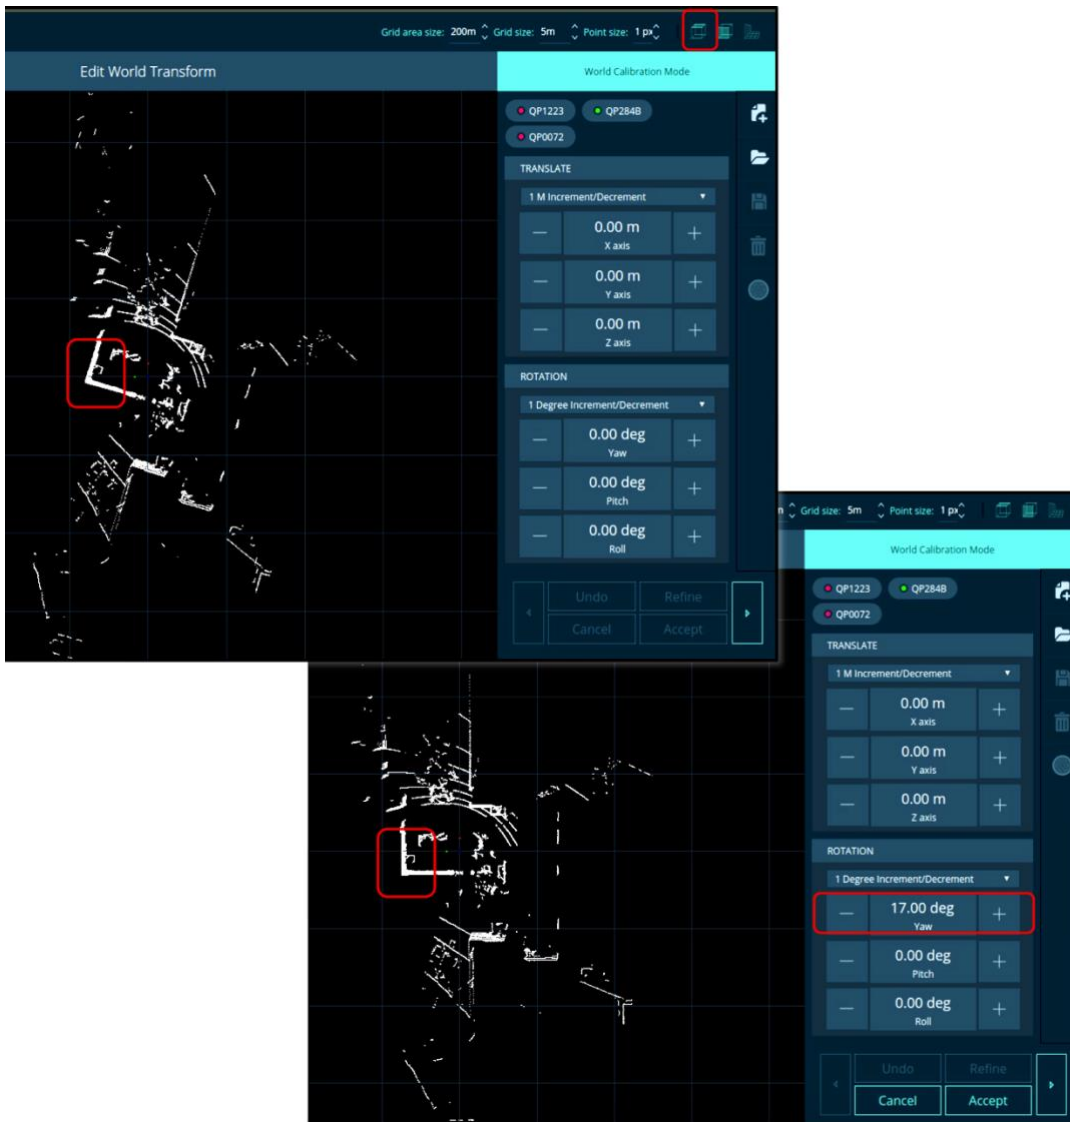

Figure 54. Calibrate Tab: First Sensor Align XY to Grid, Before (top), After (bottom)
6. Examine the point cloud of your selected sensor. Notice where ground points show up in concentric rings. See *Figure 54. Calibrate Tab: First Sensor Align XY to Grid, Before (top), After (bottom)*.
7. Click the **Top View** button to see how **XY axes** align with respect to the grid. See *Figure 54. Calibrate Tab: First Sensor Align XY to Grid, Before (top), After (bottom)*.